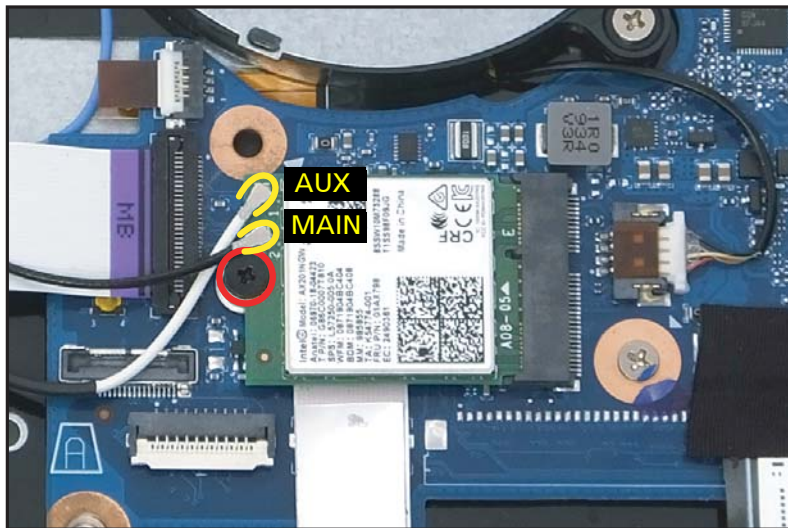

Figure 1-13. WLAN Module Removal
2. Disconnect the AUX antenna cable (white-color) from the WLAN AUX pin (Figure 1-13).
3. Disconnect the MAIN antenna cable (black-color) from the WLAN MAIN pin (Figure 1-13).
4. Remove one (1) screw securing the WLAN module in place (Figure 1-13).